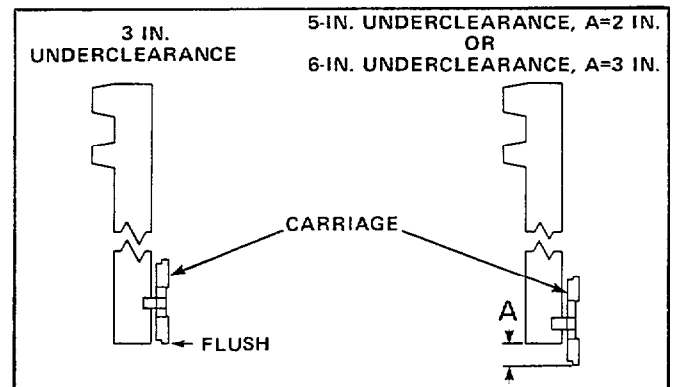

Figure 48. Correct Carriage Positions when Mast is Fully Lowered
The carriage chains should be adjusted so that when the unloaded mast is fully lowered, the carriage is positioned as shown in Figure 48.
2. Adjust one carriage chain anchor nut to achieve the correct carriage position when fully lowered as shown in Figure 48.